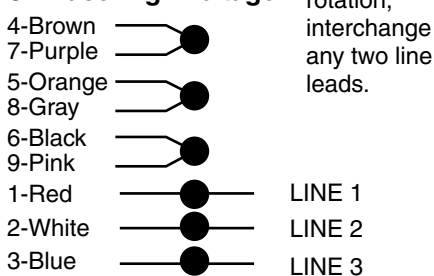

Figure 12B – 3-Phase Wiring Diagram
- Wire motor as shown (Figure 12B). If motor nameplate diagram does not match either Figure 12A or 12B, follow nameplate diagram.
For single-phase motors, follow Figure 12A. For 3-phase motors, follow Figure 12B. If motor does not match this picture, follow the connection diagram on the motor nameplate or in the motor connection box.